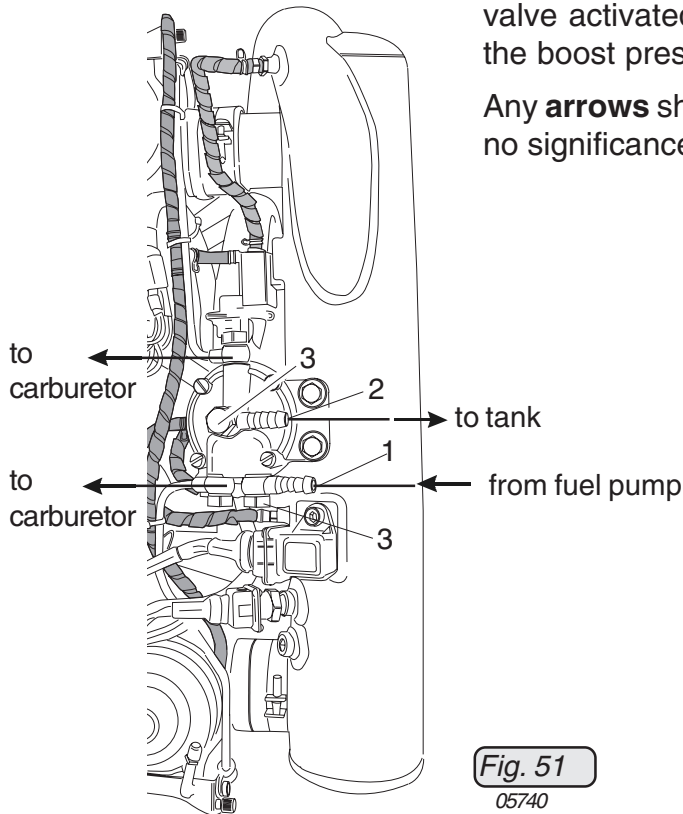

Fig. 51
See outline of fuel pressure control (3), Fig. 48 and Fig. 51.